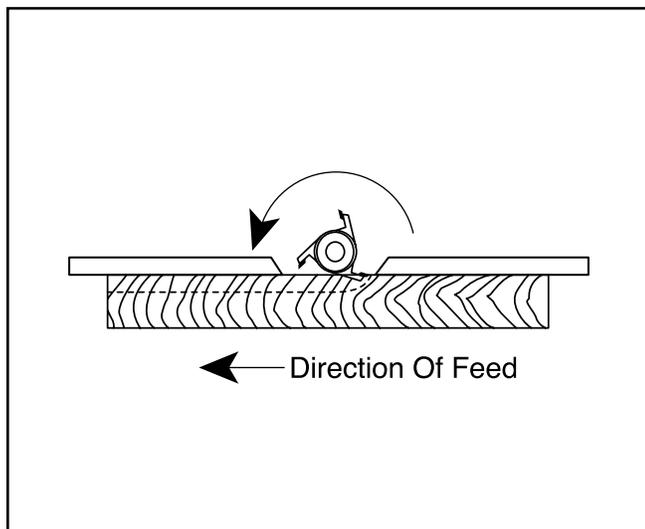

Figure 21. Fence adjustment for blind cuts.
4. Run a test piece through the shaper. See **Figure 21**.